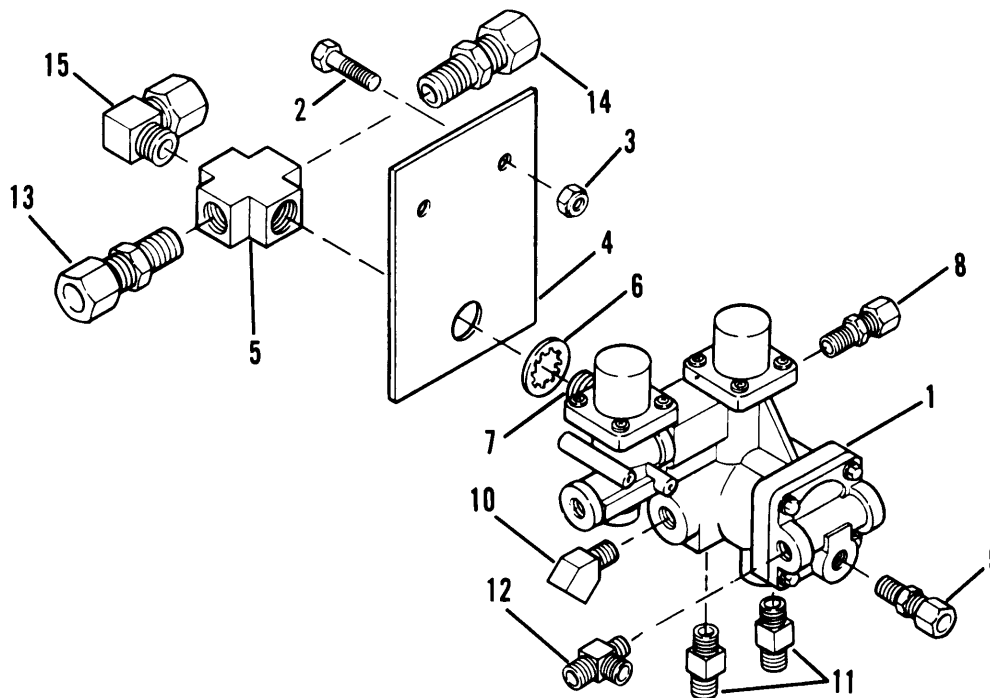

Figure 4-34. Multi-Function Valve W7W)
- (1) Tag and disconnect air lines from multi-function valve (1, fig. 4-34).
- (2) Remove two screws (2) and locknuts (3) from mounting plate (4).
- (3) Remove multi-function valve (1) from female pipe cross (5) and mounting plate (4).
- (4) Remove washer (6) and male adapter (7) from multi-function valve (1).
- (5) Remove male connectors (8, 9 and 10) from multi-function valve (1).
- (6) Remove adapters (11) and tee (12) from multi-function valve (1).
- (7) Remove male connectors (13 and 14) from pipe cross (5).
- (8) Remove 90° elbow (15) from pipe cross (5).
- (1) Install 90° elbow (15, fig. 4-34) in pipe cross (5).
- (2) Install male connectors (13 and 14) in pipe cross (5).
- (3) Install adapters (11) and tee (12) in multi-function valve (1).
- (4) Install male connectors (8, 9 and 10) in multi-function valve (1).
- (5) Install male adapter (7) and washer (6) on multi-function valve (1).
- (6) Install multi-function valve (1) on mounting plate (4) and female pipe cross (5).
- (7) Secure multi-function valve (1) and mounting plate (4) to frame with two screws (2) and locknuts (3).
- (8) Connect air lines to multi-function valve (1).
- (9) Close drain cocks.
- (10) Charge air brake system.
- (11) Check for leaks.